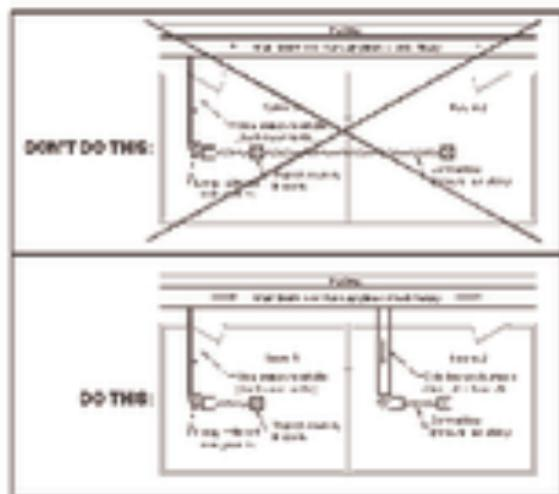

Figure 4.5: Methods to properly interconnected HVAC systems between studio rooms ("aisy-chaining" is strongly discouraged)
- If installing a new HVAC system and ductwork, make sure that you do not have ducts "aisy-chaining" between adjacent studio rooms that are fed by the same main trunk. Instead, add an additional trunk line and feed each other room as shown in Figure 4.5.